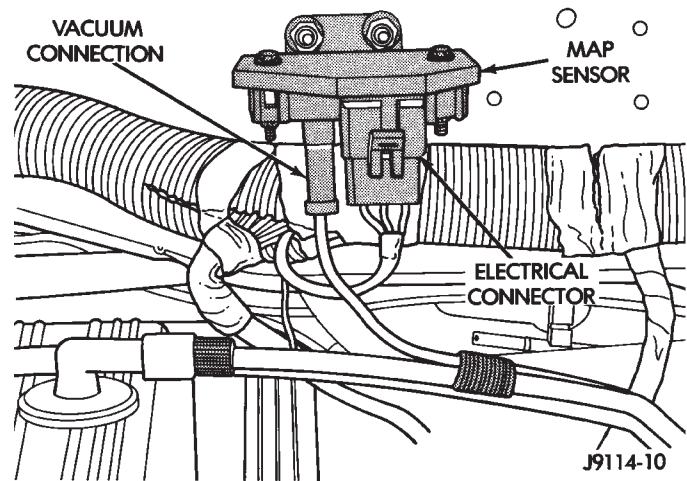

Fig. 9 MAP Sensor—Typical
The MAP sensor is located on the dash panel near the rear of the engine cylinder head (valve) cover (Fig. 9).
- (1) Disconnect the MAP sensor electrical connector (Fig. 9).
- (2) Disconnect the MAP sensor vacuum supply hose (Fig. 9).
- (3) Remove the MAP sensor mounting bolts and remove MAP sensor.